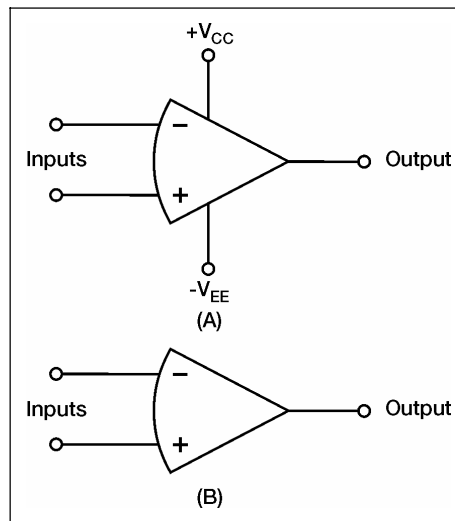

Figure 7-10. Schematic Symbols of an Operational Amplifier
7-47. Figure 7-10 shows the schematic symbols for an operational amplifier. View (A) shows the power supply requirements and view (B) shows only the input and output terminals. An operational amplifier is a special type of high-gain, DC amplifier. To be classified as an operational amplifier, the circuit must have certain characteristics. The three most important characteristics of an operational amplifier are: